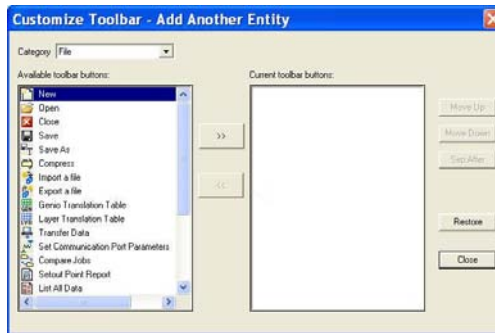

Figure 7-20. Customize the New Toolbar
- **Customize** – press to customize the newly created toolbar (Figure 7-20 on page 7-21), then do the following: